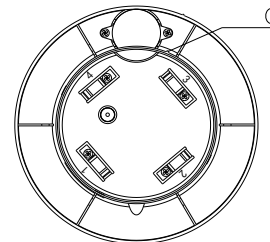
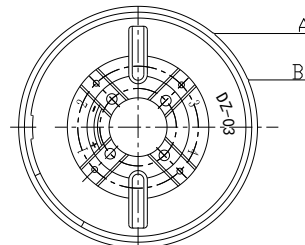

Fig. 3 Sounder Base
Fig. 4 Base
- 3 Secure the sounder base to detector base (Fig. 4) with 2 tapping screws, and wire them properly. Align the orientation mark C on the sounder base to mark A of the base, and rotate the sounder base clockwise to B. Refer to Fig. 3 and 4.